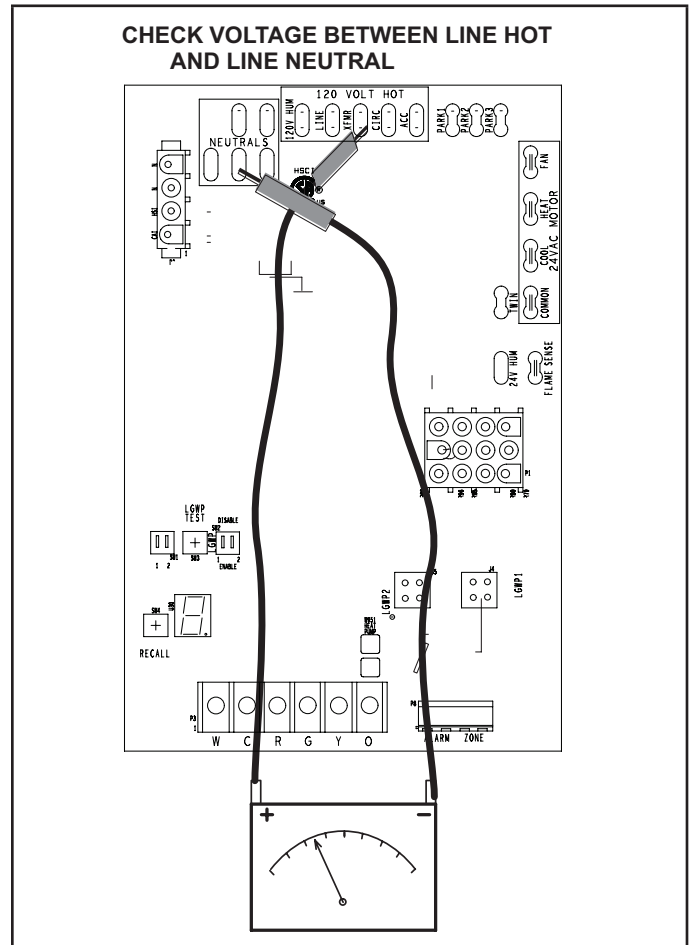

FIGURE 22
- 2 - In addition, measure the AC voltage from Line Hot to Line Neutral (spade terminals) on the integrated control. See FIGURE 22. This voltage should be in the range of 97 to 132 Vac.